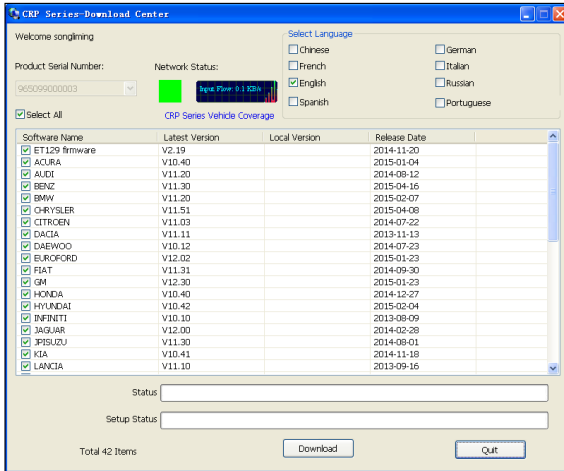

Figure 7-7
10. Reopen the CRP update Suite and select the updates you would like to perform or click [Select All] and click [Download]. (Figure 7-7)